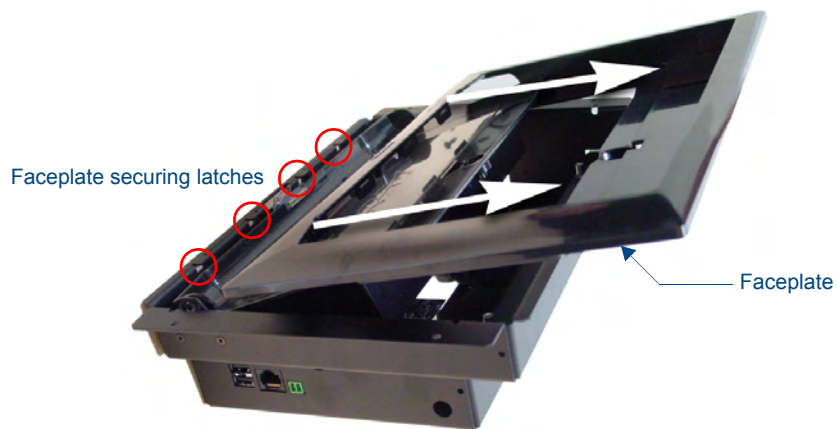

FIG. 8 Faceplate removal from MVP-WDS
9. Grasp the top rim of the faceplate and carefully slide it over the cradle (at an angle) until the faceplate is completely removed from the WDS (FIG. 8).